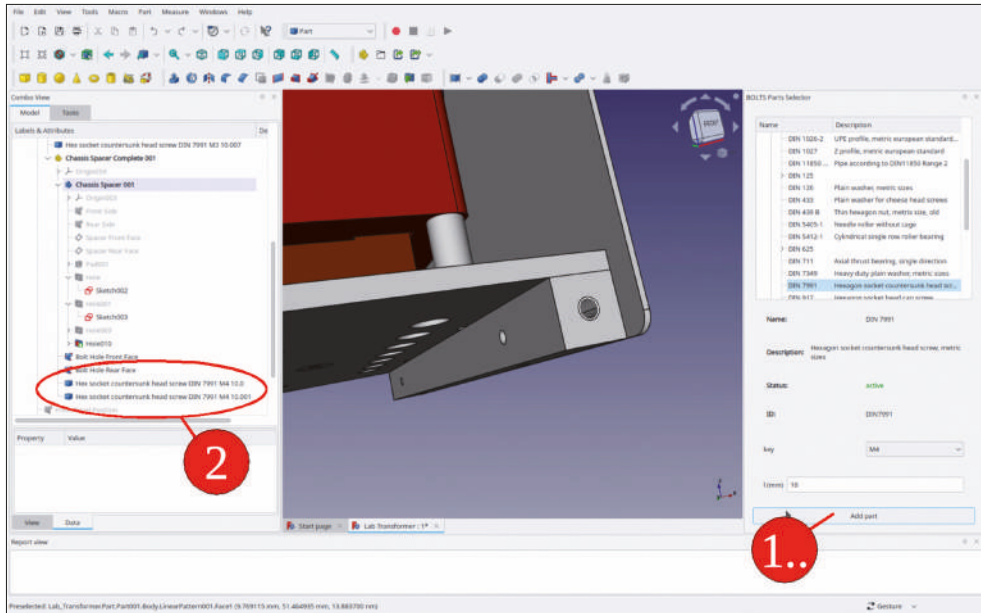

Figure 9-155
14. Drag-and-drop the new screws into the Std-Part-Container 'Chassis Spacer Complete 001' (Figure 9-155).